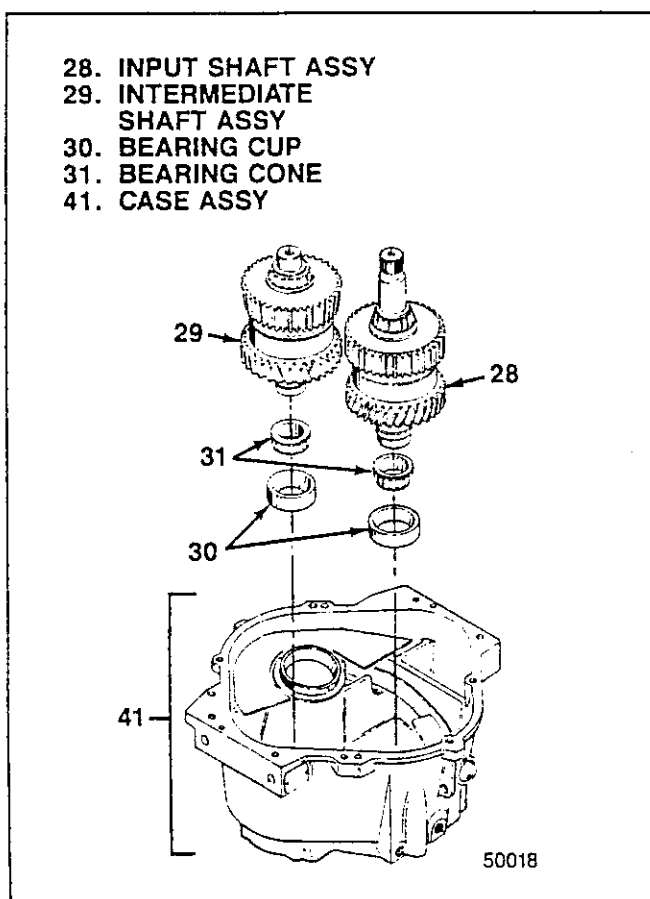

Figure 5-14. Input and Intermediate Shaft Assemblies
**5-19. INSTALLATION OF INTERMEDIATE AND INPUT SHAFT ASSEMBLIES.** Using intermediate shaft assembly as assembled in paragraph 5-4 and input shaft assembly as assembled in paragraph 5-8, proceed as follows (see figure 5-14):
1. Position one bearing cone (31) and one bearing cup (30) in cavity at pump end of case assembly (41). Install intermediate shaft assembly (29), guiding shaft end through bearing cone.
2. Position one bearing cone (31) and one bearing cup (30) in cavity at pump end of case assembly (41). Install input shaft assembly (28), guiding shaft end through bearing cone and engaging gear with that on intermediate shaft assembly (29).